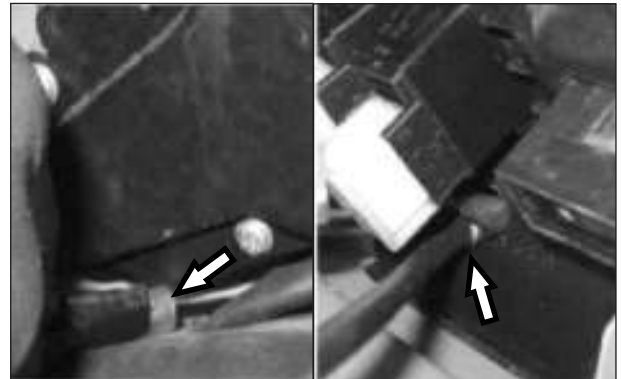

Fig. 9.31
- Take out the harness from bottom of the dashboard near by hazard switch. (Fig. 9.31)